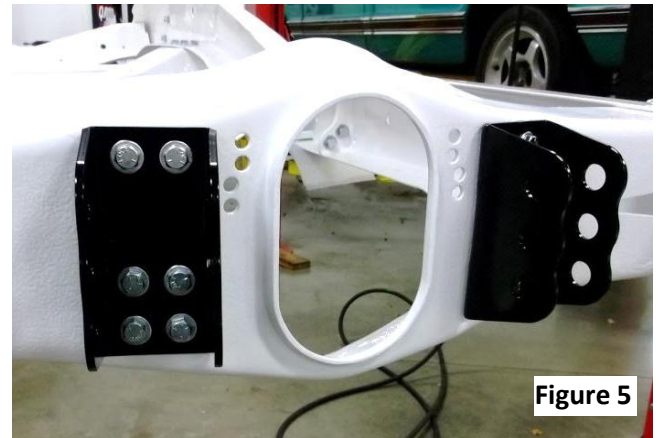

Figure 5
6. Install the QA1 truck arm mounts on the factory truck arm cross member using the supplied 3/8" x 1 1/4" bolts washers and nuts. Torque to 30 lb. ft. See **Figure 5**.